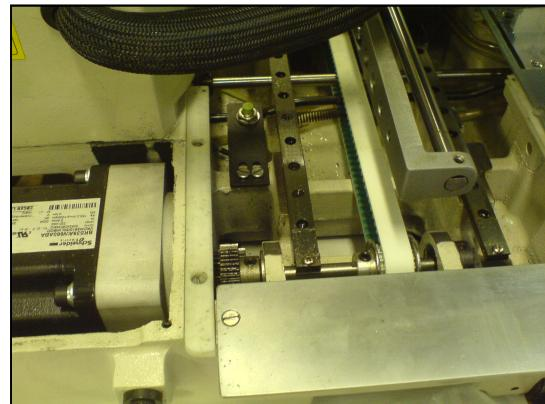

Fig. 32
A. Setting of X-axis initial point (fig. 32)